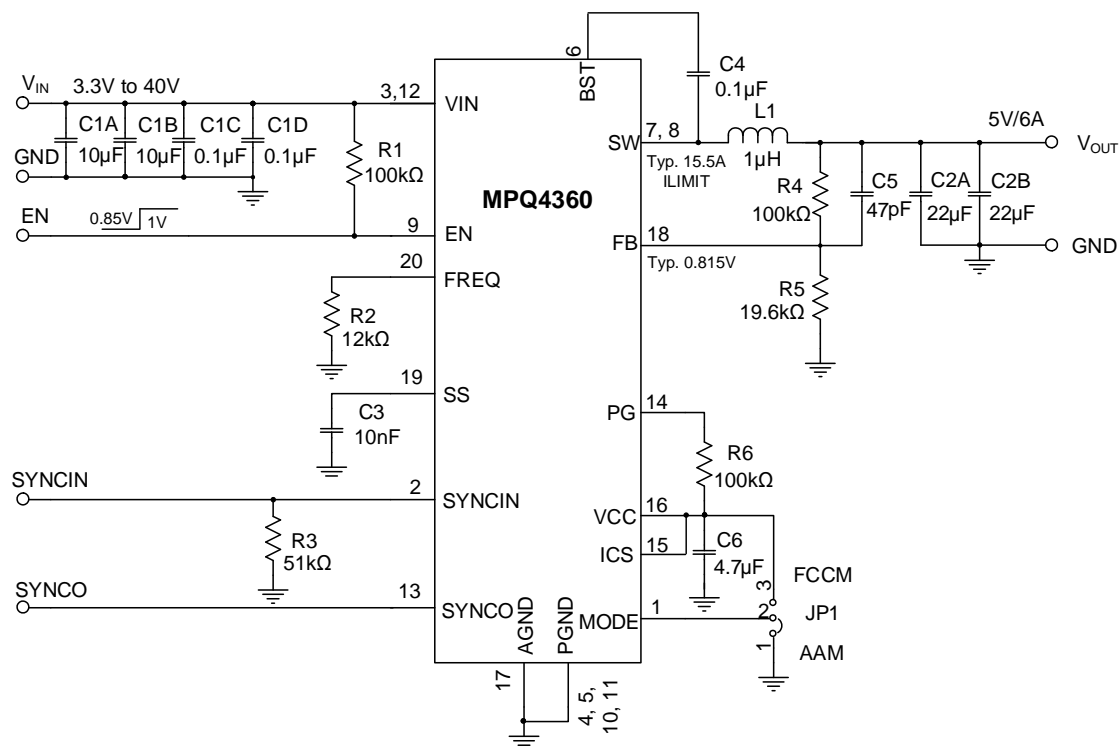

Figure 12: Single-Phase Operation, $V_{OUT} = 5V$, $f_{SW} = 2.2MHz$
- 10) The recommended PCB layout is based on Figure 12 on page 40.